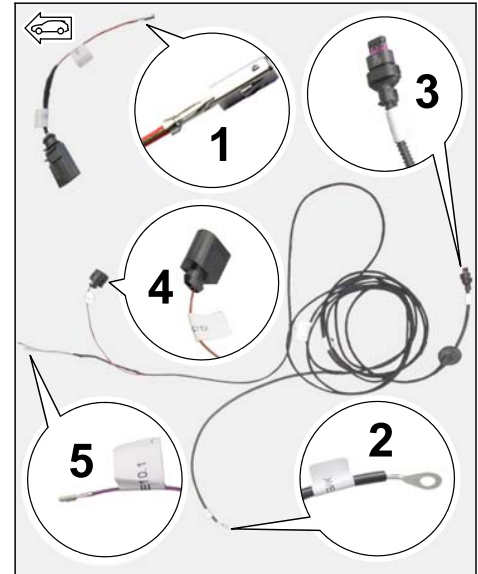

Figure 36
– Wire harness connections ( $\Rightarrow$  Figure 36):